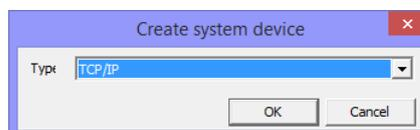

Figure 5.8 – Creating the *TCP/IP* receiver-transmitter card
- 5) Select the *TCP/IP* type and click *OK* (see figure 5.8).
3. Select the *TCP/IP* type and click *OK* (see figure 5.8).